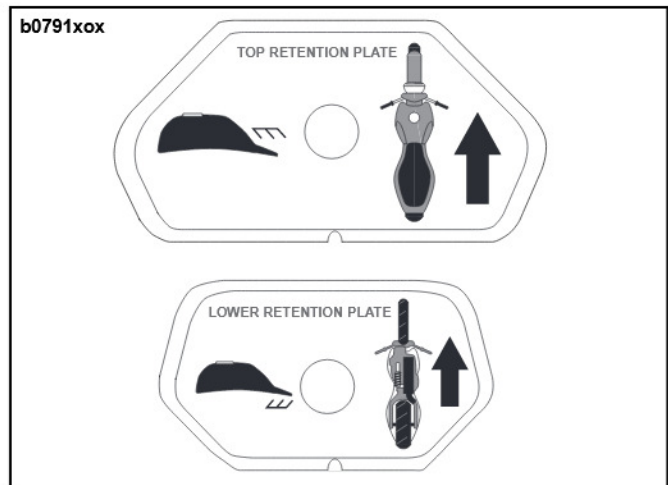

Figure 7. Retention Plate Decals
- See Figure 7. The retention plates have decals on them showing the position and direction that they are to be mounted. Also, they have a V-shaped notch which is to face the rear of the vehicle.